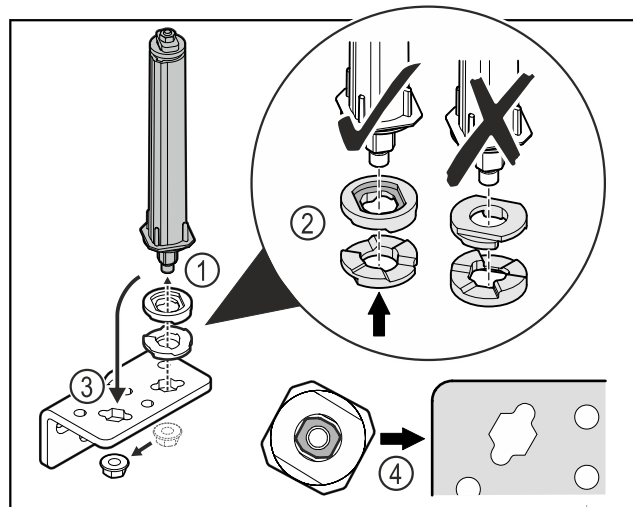

Fig. 32
- Loosen the nut and remove the door closing system Fig. 32 (1).
- Observe the correct alignment of the height adjustment washers Fig. 32 (2).
- Put the door closing system in the hinge and fix in place with the nut Fig. 32 (3).
- Observe the correct alignment of the door closing system when doing so Fig. 32 (4).